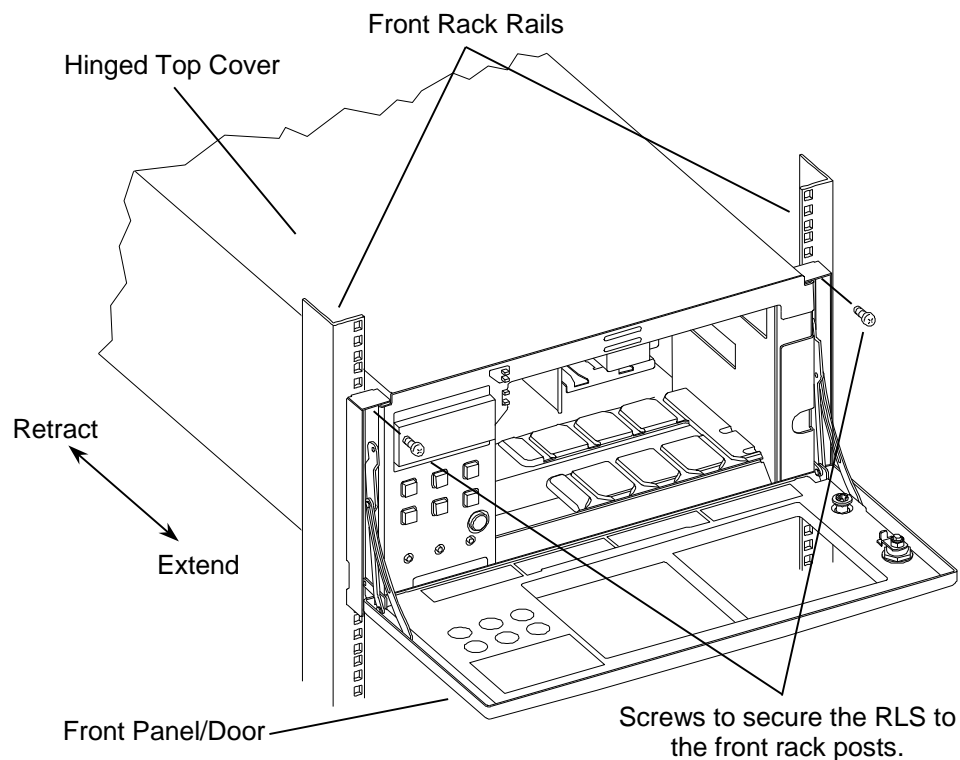

Figure 7-2 Detail of the Extension Prevention Screws
4. Use a No. 2 Phillips screwdriver to remove the two screws that secure the RLS to the front rack posts. See Figure 7-2.
3. With the Front Panel/Door open, use a No. 2 Phillips screwdriver to reinstall the two screws that secure the RLS to the front rack posts. See Figure 7-2.